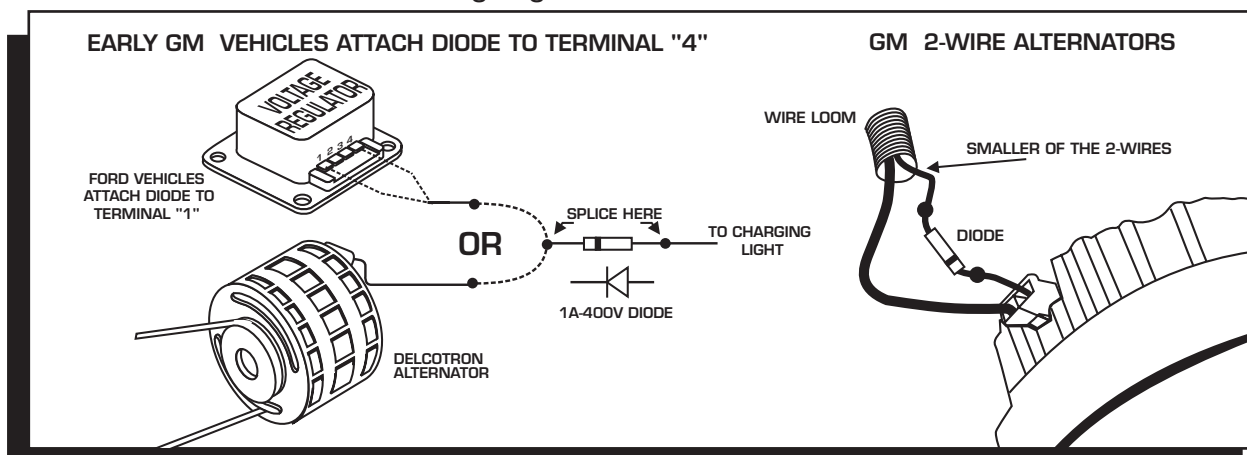

Figure 6 Installing the Diode to fix Run-On.
**Early Ford and GM:** To solve the Run-On problem, a Diode is supplied with the MSD in the parts bag. By installing this Diode in-line of the wire that goes to the Charging indicator, the voltage is kept from entering the MSD. Figure 6 shows the proper installation for early Ford and GM vehicles.
**Note:** Diodes are used to allow voltage to flow only one way. Make sure the Diode is installed facing the proper direction (as shown in Figure 6).
GM Delcotron Alternators use an internal voltage regulator. Install the Diode in-line on the smallest wire exiting the alternator (Figure 6). It is usually a Brown wire.